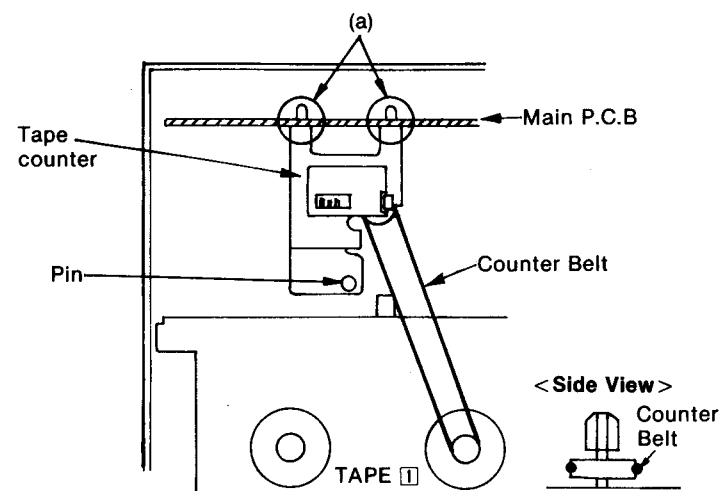

Fig. 17
1. Slide the boss on the rear cabinet ass'y through the shield plate hole as shown in Fig. 17.
1. Insert the tape counter in the hole (a) on the main circuit board as shown in Fig. 17.
3. Attach the counter belt as shown in Fig. 17, while being careful not to twist the belt or allow grease to come in contact with it.